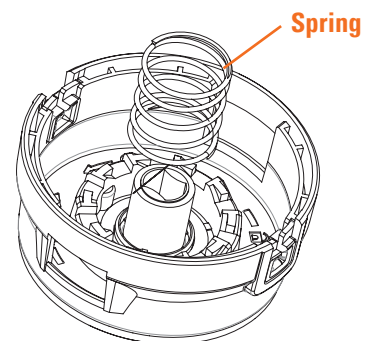

Figure 8
4. Place the spring over the post on the spool housing (see Figure 8).